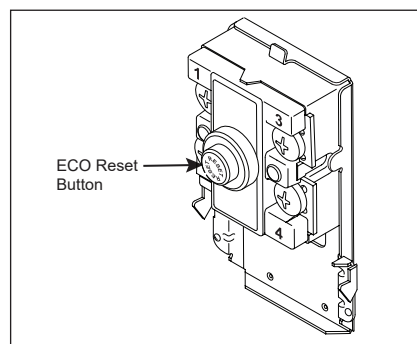

Figure 11 - ECO
- Press the red ECO reset button (see Figure 11).